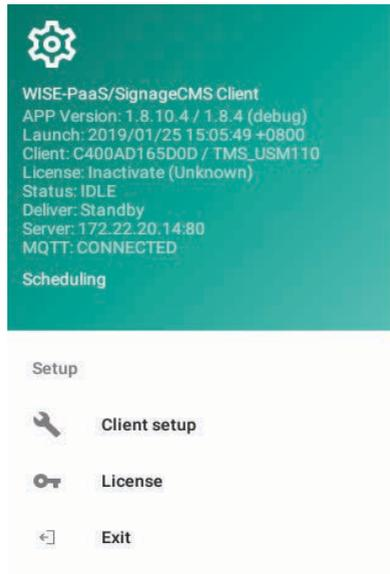

Figure 8
Step 2. Navigate the mouse cursor to the left of the screen to access the Client Setup menu (as shown in Figure 8).